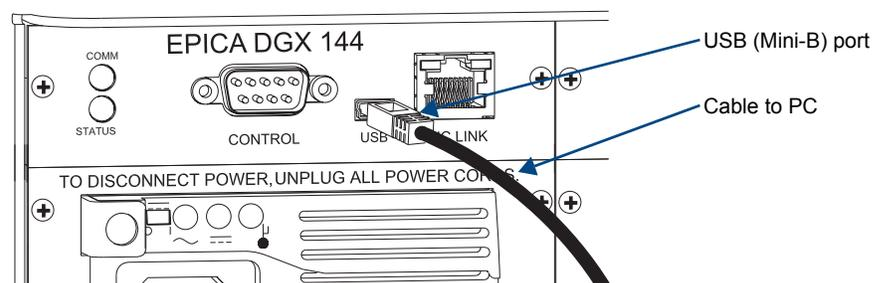

FIG. 16 Connect to USB port
2. Connect the Epica DGX 144 to a PC running Windows[®] using a USB mini-B cable (FIG. 16).